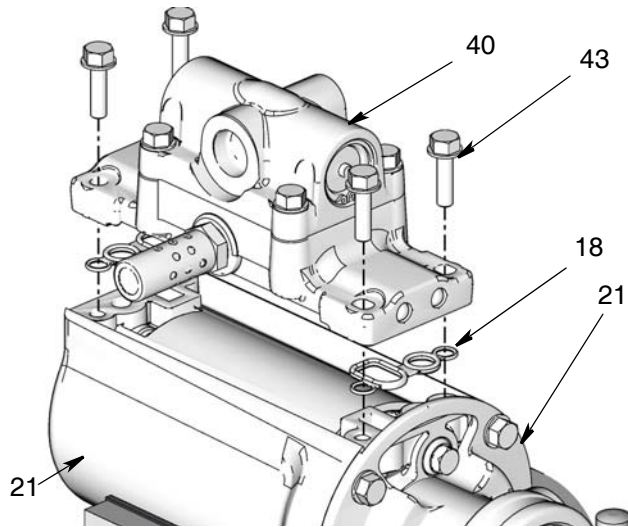

Fig. 9
15. Clamp the air cylinder (21) horizontally in a vise as shown in Fig. 9.
- Using a 10 mm socket wrench, remove the 4 screws (43) from the air valve (40) and completely remove air valve assembly from air cylinder (21). Also remove the two cover gaskets (18). If you are replacing these parts, discard gaskets. (Fig. 9).